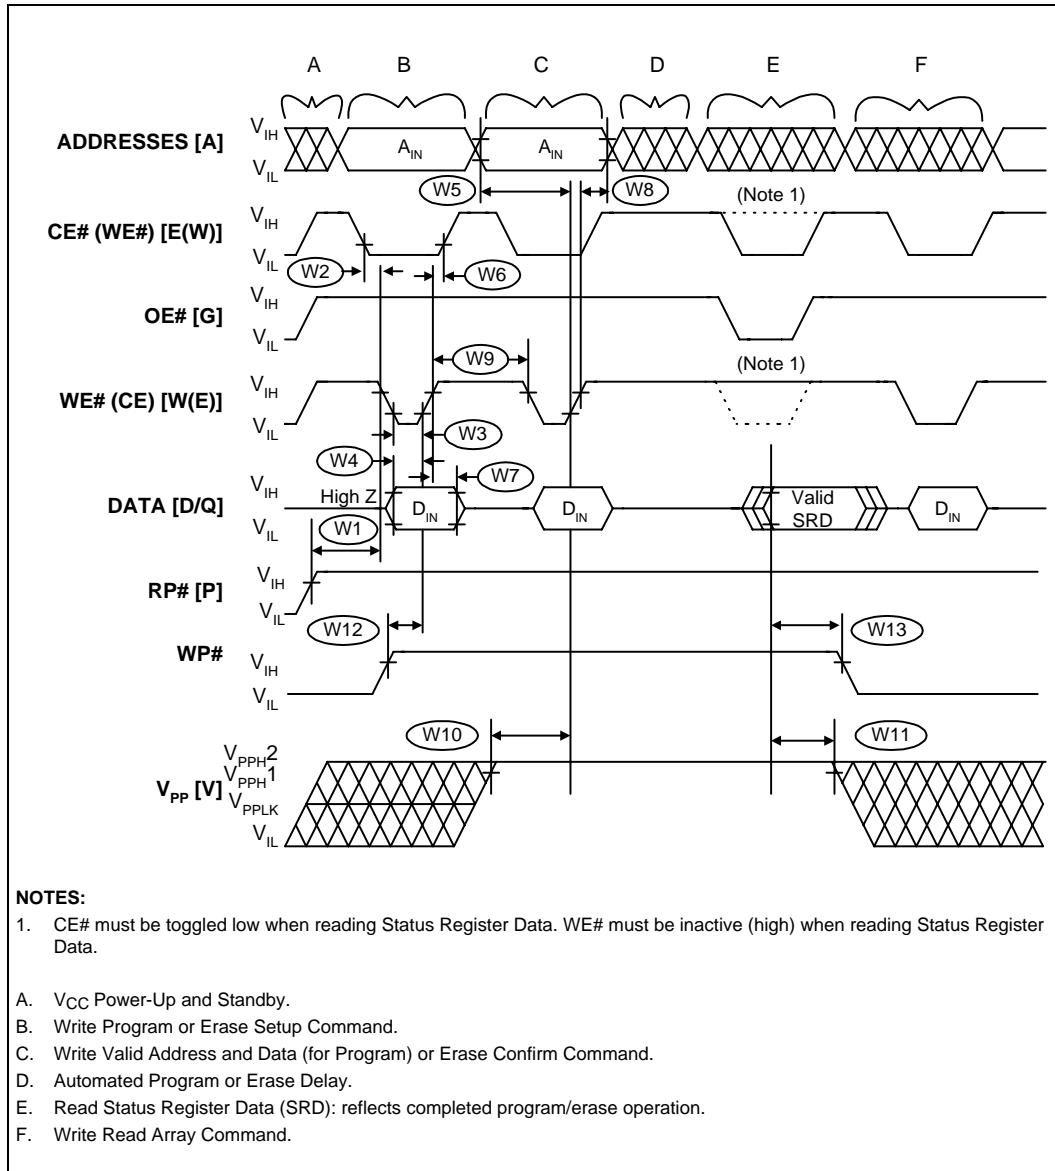

Figure 8. AC Waveform: Program and Erase Operations
- See Figure 8: *AC Waveform: Program and Erase Operations*